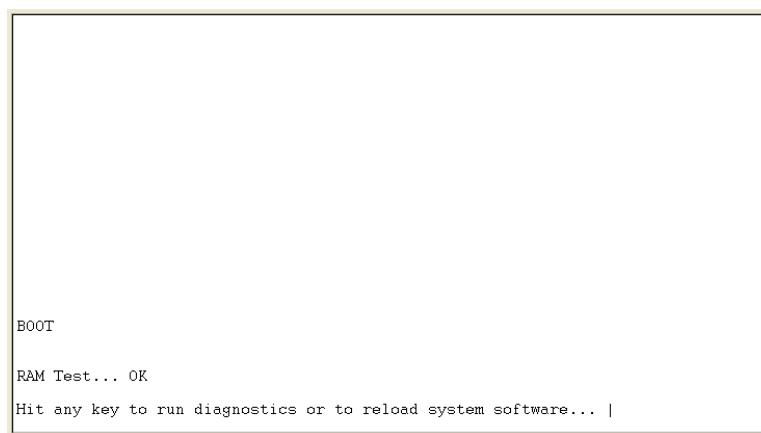

Figure 1 System Booting Window
2. Start the AT-S25 management software. The System Booting window as shown in Figure 1 is running.